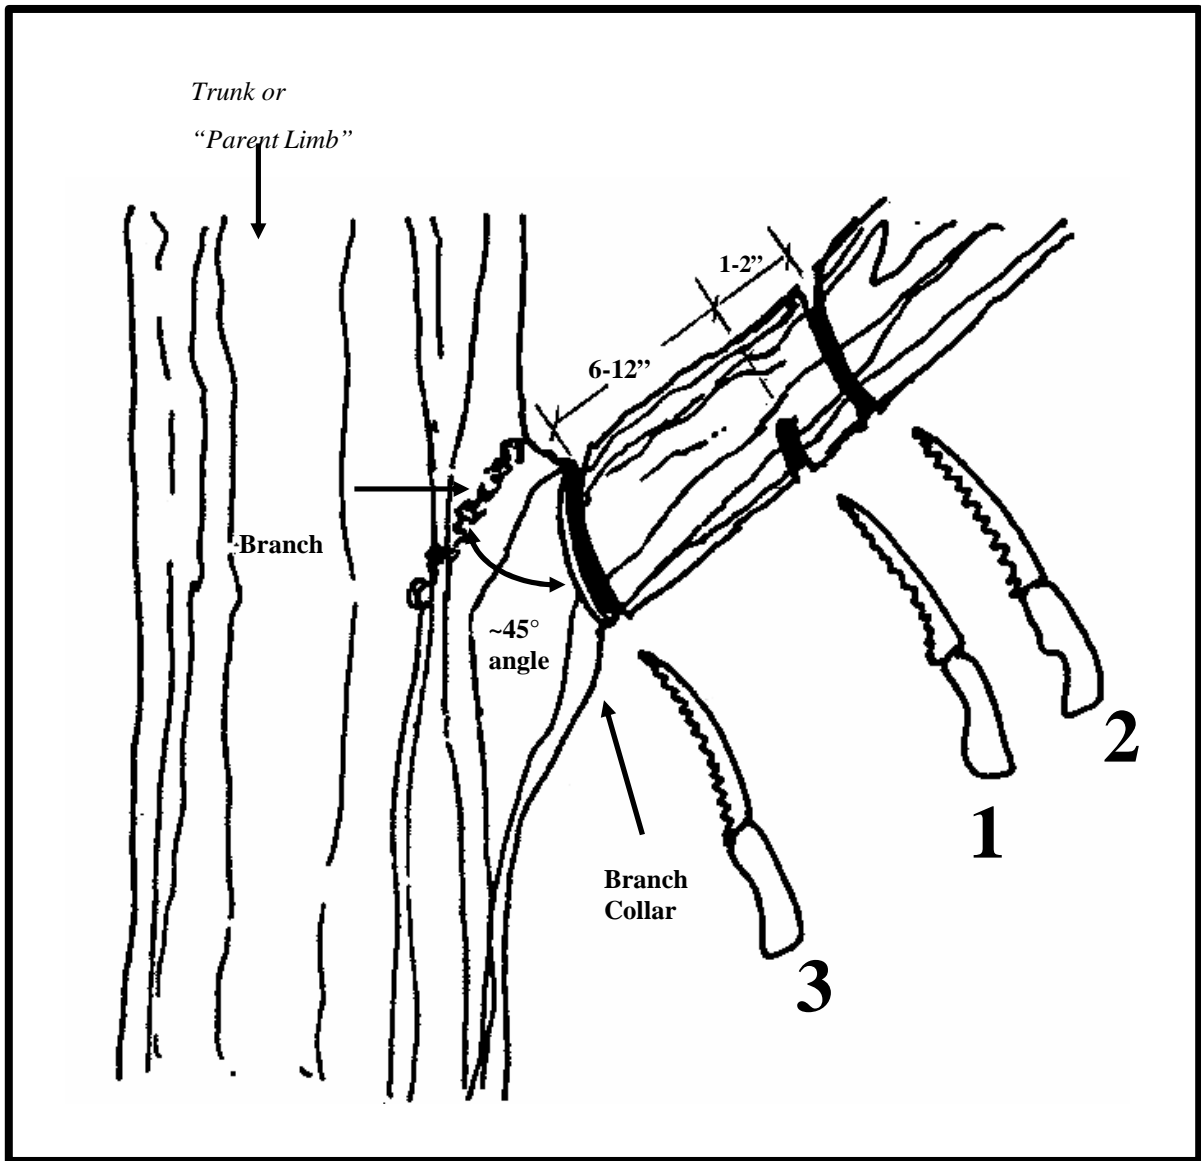

Figure 3. The 3-Cut Pruning Method
- 13. Make proper pruning cuts using the 3-cut method, avoiding stub cuts, flush cuts, and wounds to remaining limbs and trunk (see Figure 3).**
A recommended method commonly employed to safely remove large tree limbs is illustrated in Figure 3.
When removing a branch, make your cut back to the trunk or parent limb, just outside the branch collar, or at an approximately 45 degree angle to the branch bark ridge if the collar is not visible. In Figure 3, Cut 1 is made first, then Cut 2 is made just outside of Cut 1. At this time the majority of the branch begins to fall, breaks at Cut 1, and is removed without stripping the bark below Cut 1. Cut 3 is then made just outside the branch collar or swelling at the base of the branch and the remainder of the branch or limb is removed.